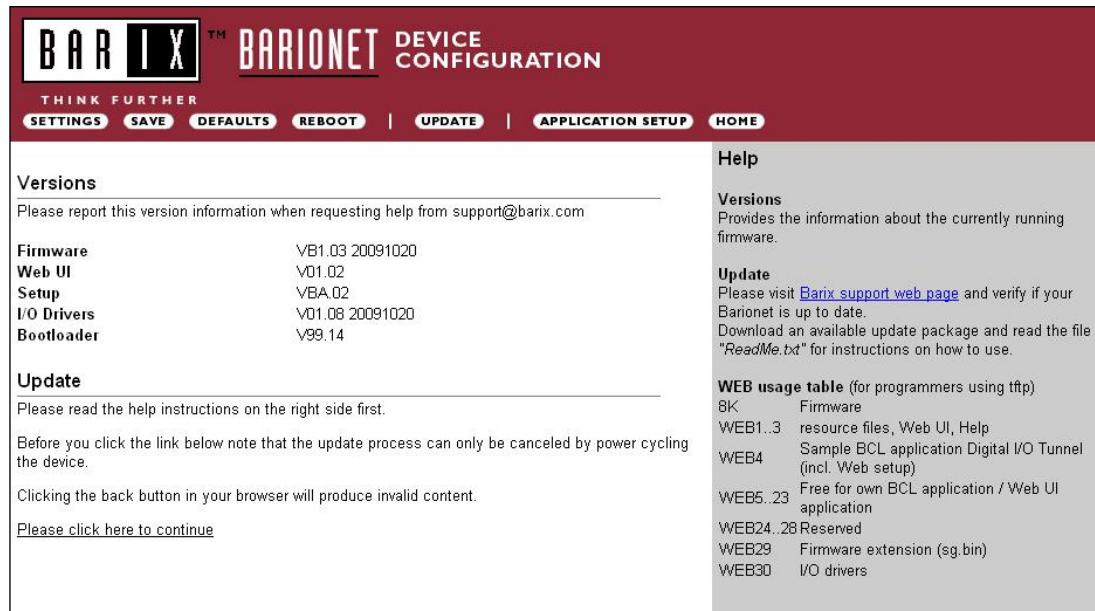

Figure 40. The Barionet 50 Update Screen shows the current firmware version.
2. Click the "Configuration" button in the upper left corner of the main screen. Then click the "Update" button near the top of the main Configuration screen. See Figure 40.